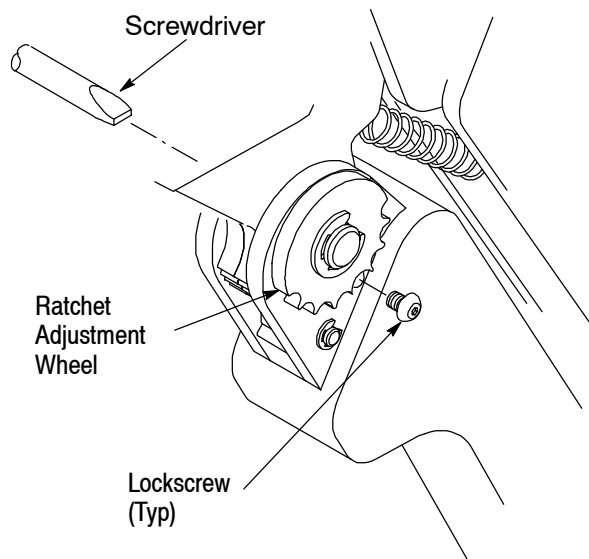

Figure 5
**7. RATCHET (Crimp Height) Adjustment** (Figure 5)